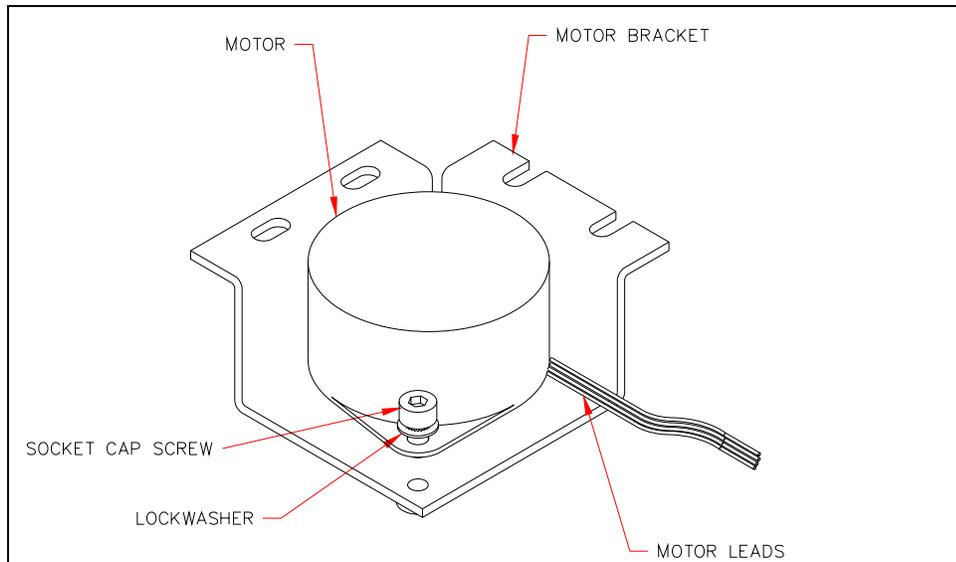

Figure 11-12 Motor and Mount
- 2 Remove the Motor mount from the chassis (Figure 11-12).